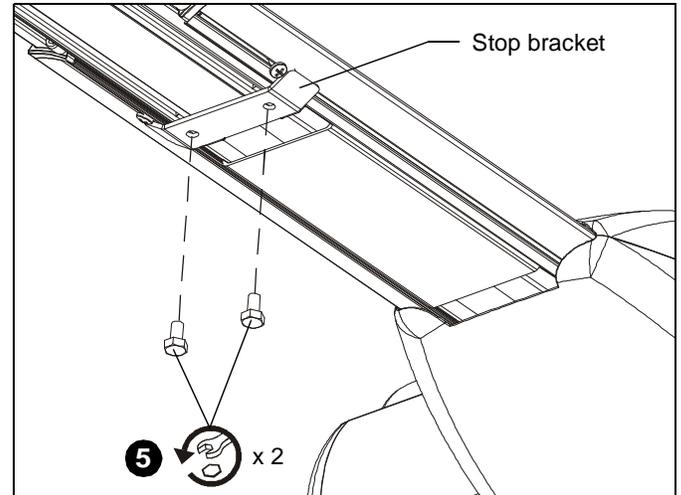

Figure 36
5. Remove two bolts holding stop bracket in place on underside of short throw projector mount. (See Figure 36)